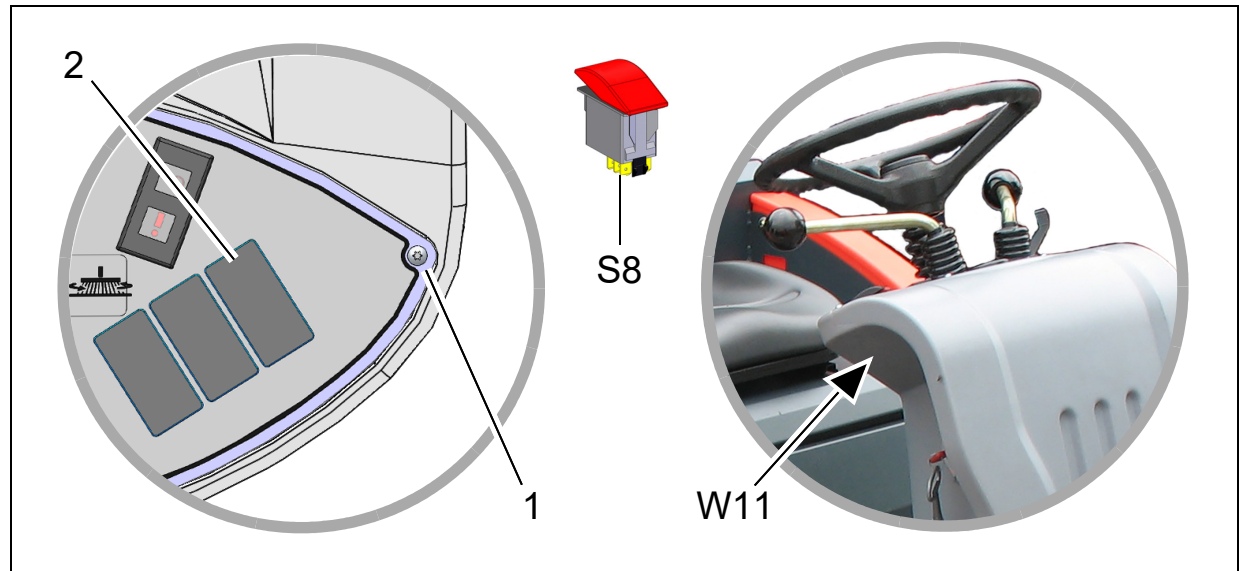

Abb.3
1. Unscrew the control panel (Fig. 3/1) and remove the blind plug (Fig. 3/2).